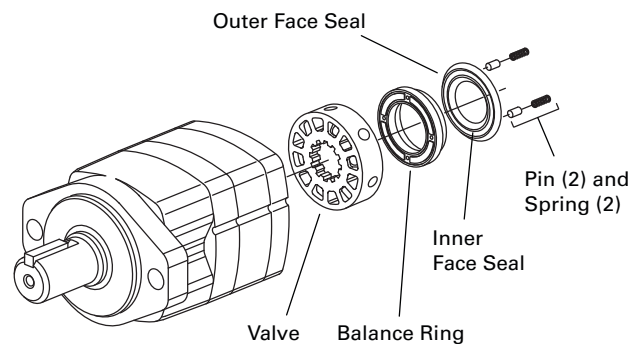

Figure 5.
6. Remove 2 pins and 2 springs from balance ring assembly, see Figure 5.